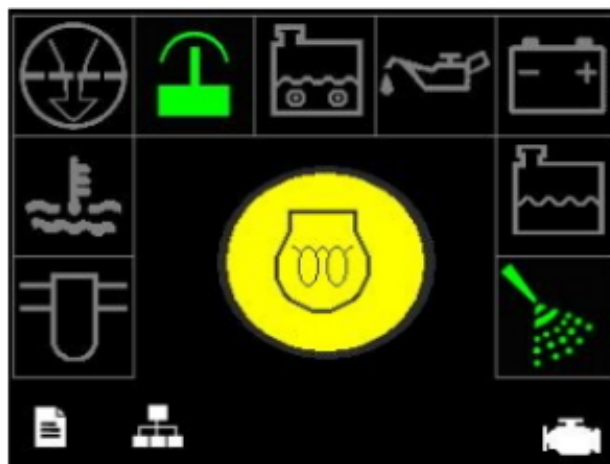

Figure 7.4 - Home Screen (Wait to Start)
- » On Tier 4 machines the wait to start lamp is illuminated briefly on the home screen, Ref: Figure 7.4. The engine can be started after this lamp goes out.